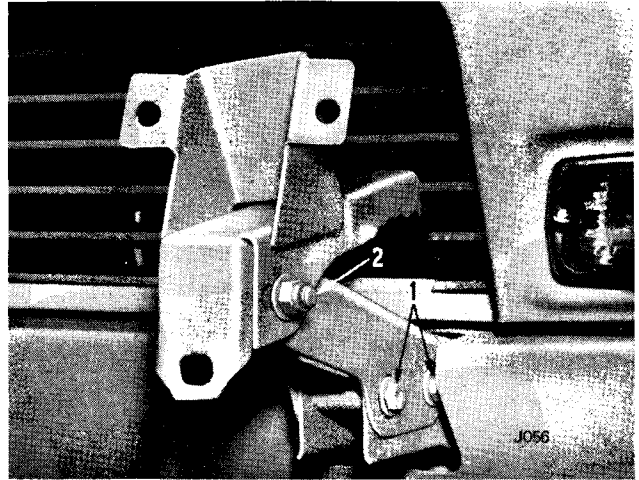

Fig. 55. Bonnet adjustment
Close the bonnet and take out two bolts (2) (Fig. 55).
Slacken the bolts (2) (Fig. 55), move the bonnet forwards or rearwards to achieve a parallel gap of $\frac{1}{16}$ " (5 mm.) between the bonnet, scuttle and doors.
Height Adjustment—Front (Fig. 55)